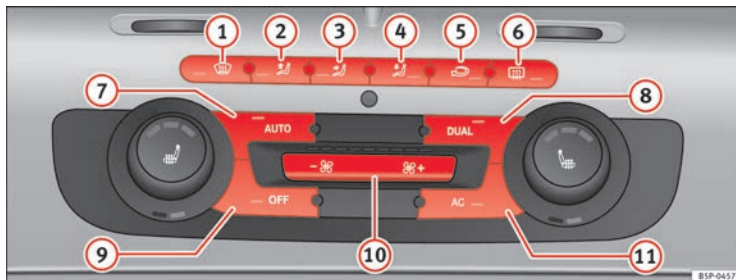

Fig. 135 On the dash panel: 2C Climatronic controls.
- To enter manual mode, press one of the buttons \Rightarrow fig. 135 (1) to (5) or press the air flow control (10). The selected function is shown on the radio or navigator display.
- Press the button  ⇒ page 169, fig. 135 ② to switch air recirculation mode on or off. It is switched on if the following symbol appears in the display .